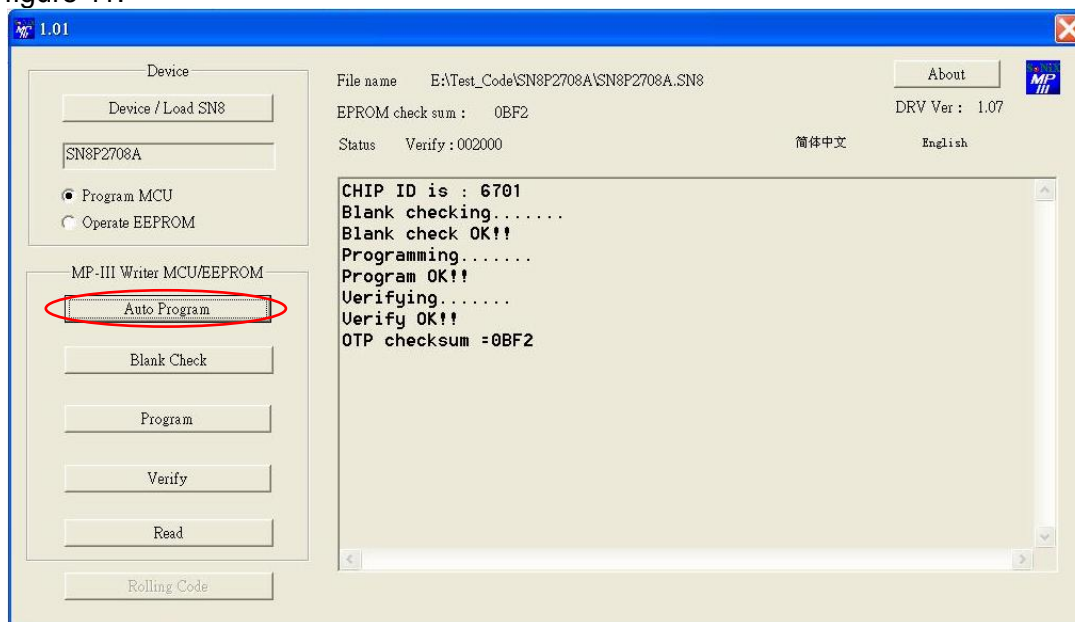

Figure 11 Execute “Auto Program”
- After chip waited for programming deposited to fixture correctly and click “Auto Program” button, writer will execute “Blank Check”, “Program”, “Verify” at once, indication message is shown as figure 11:
Figure 11 clear EEPROM